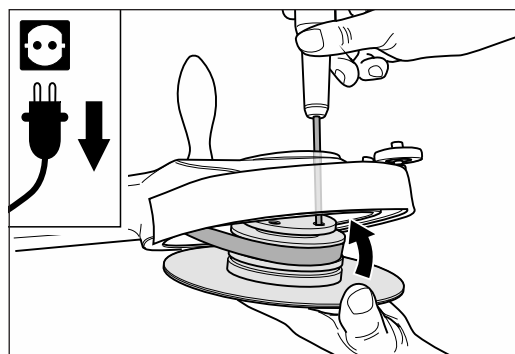

Fig. 76 For simplified assembly, insert a screwdriver from above through a hole in the attachment into a hole in the bearing unit of the sanding disc wheel.
- 17 To make sure that the hole pattern of the attachment and the fixture of the sanding disc wheel line up properly, insert a screwdriver from above through a hole in the attachment into a hole in the fixture of the sanding disc wheel (fig. 76).